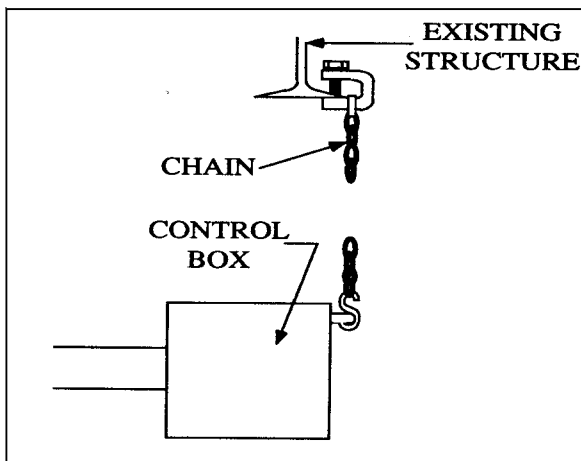

Fig. 2-5
2. Use of number 1 double loop chain is recommended for heater hanging (Accessory THCS). See figure 2-5.